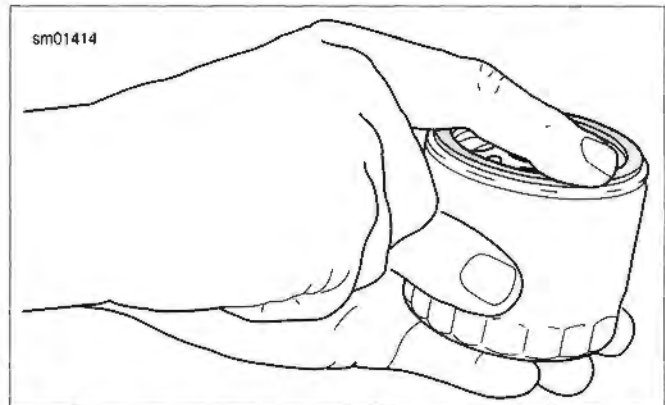

Figure 1-5. Lubricating New Oil Filter Gasket
5. See Figure 1-5. Lube the gasket on **new** oil filter with engine oil and install **new** filter. Hand tighten oil filter 1/2 to 3/4 turn after gasket contacts filter mounting surface. **DO NOT** use oil filter wrench for oil filter installation.